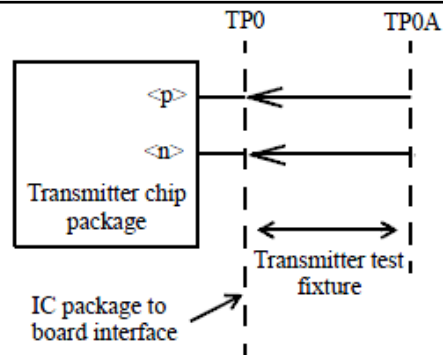

Figure 94-5—Transmitter test fixture and test points.
- Replace Figure 94-5 with the attached figure